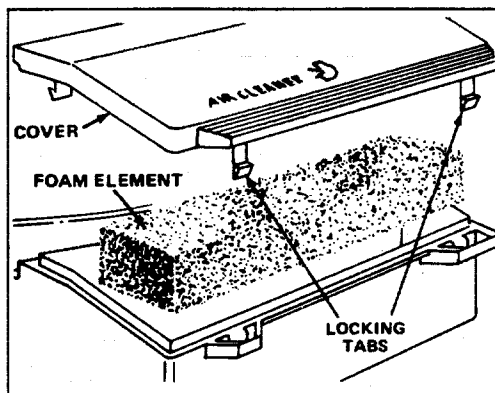

Figure 16
2. Push in locking tabs and lift off air cleaner cover. Clean cover thoroughly (Fig. 16).
3. If top of foam element is dirty, remove it from air cleaner body (Fig. 16). Clean thoroughly.